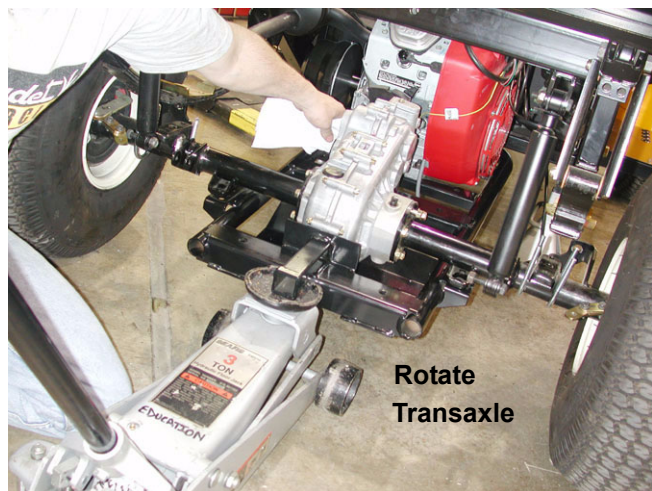

Figure 7.31
7.31. Grasp the transaxle by the input shaft to keep it from tipping forward as the bolts are removed. Remove the bolts. See Figure 7.31.